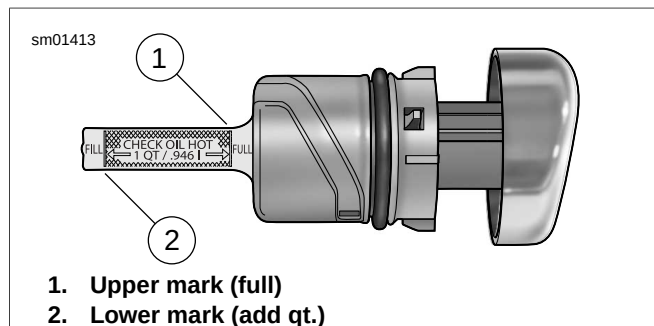

Figure 1-3. Oil Level Marks on Dipstick (typical; XL model shown)
3. Remove oil filler cap again and check oil level on dipstick. See Figure 1-3. Dipstick has two marks. If oil level is at or below lower mark (2), add only enough oil to bring the level to a point between the two arrows on the dipstick. Replace filler cap.
4. Remove filler cap again and check warm oil level on dipstick. See Figure 1-3. Dipstick has two marks. If oil level in tank is at or below lower mark, add 1.0 quart (0.946 liter) of Harley-Davidson oil to tank. Replace filler cap.